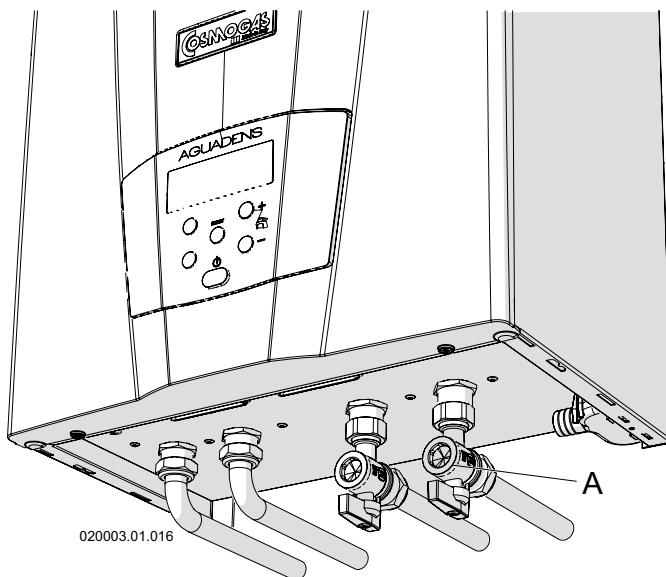

Figure 6.15 - domestic hot water flow rate selector
- 5 - if the water temperatures too cold, the flow rate must be reduced via the selector "A" in figure 6.15, until the desired temperature is reached.